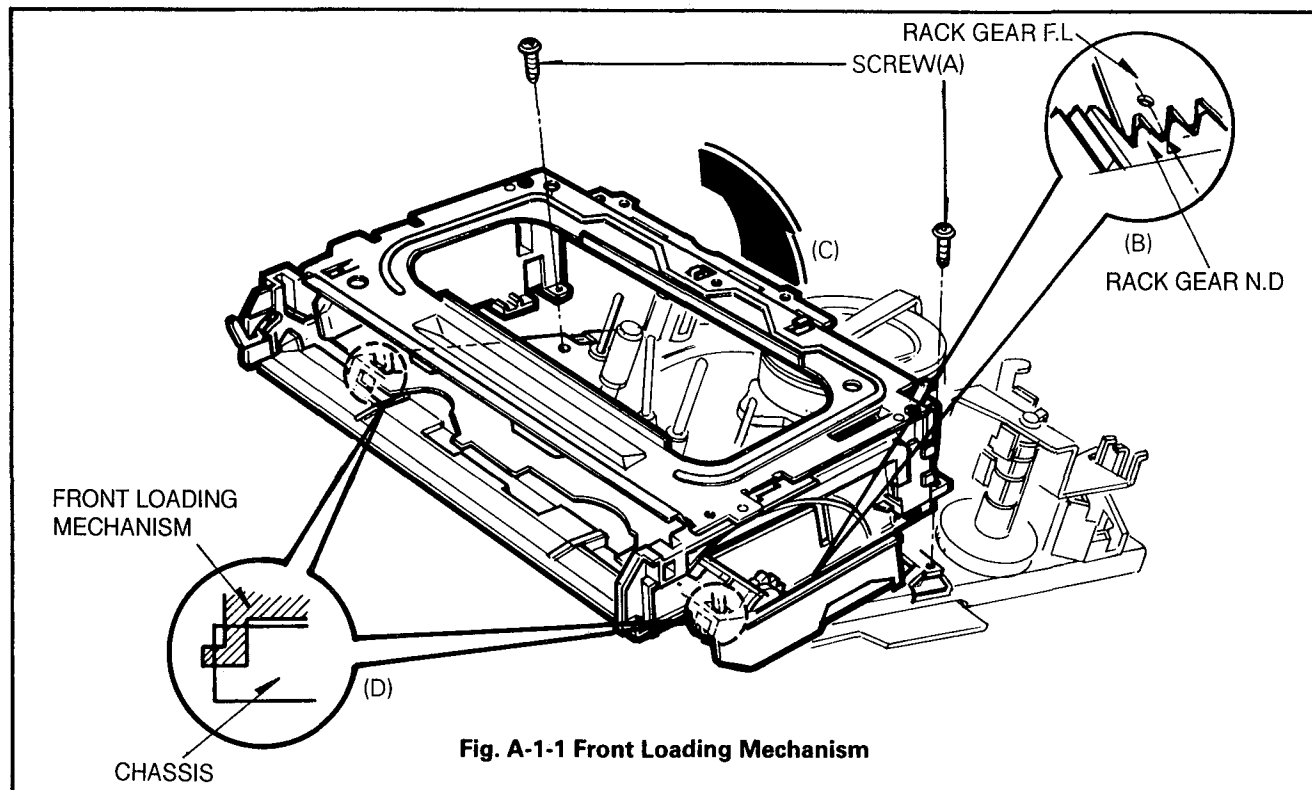
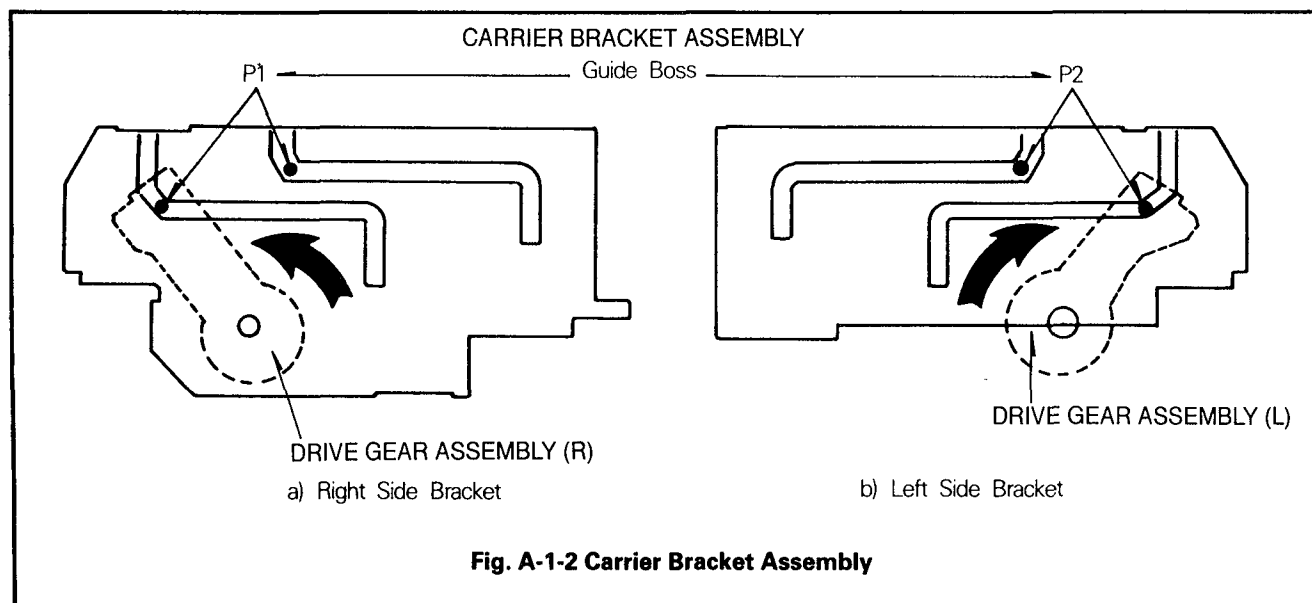

Fig. A-1-1 Front Loading Mechanism
Fig. A-1-2 Carrier Bracket Assembly
1. Front Loading Mechanism Assembly (Fig. A-1-1)
- ① Give special attention to removal and to reassemble, because two tabs(D) are engaged.
- ② Make sure that Bosses of Bracket(L),(R) are properly engaged in the holes of the chassis.
- ③ To reassemble Front Loading Mechanism, the Drive Gear Assembly should be turned in a counterclockwise as shown in Fig A-1-2 so that the Rack Gear N.D of Front Loading Mechanism Assembly is meshed into Rack Gear F.L of Deck Mechanism Assembly correctly as shown in Fig A-1-1 (B)